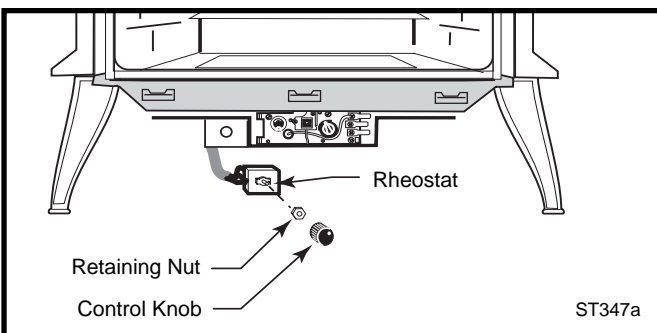

Fig. 10 Attach rheostat to control panel. Valve may look different.
6. Route the rheostat control switch and wire forward under the stove. (Fig. 10) Use the wire tie to secure the fan and rheostat wire harnesses together to the tubing under the heater.